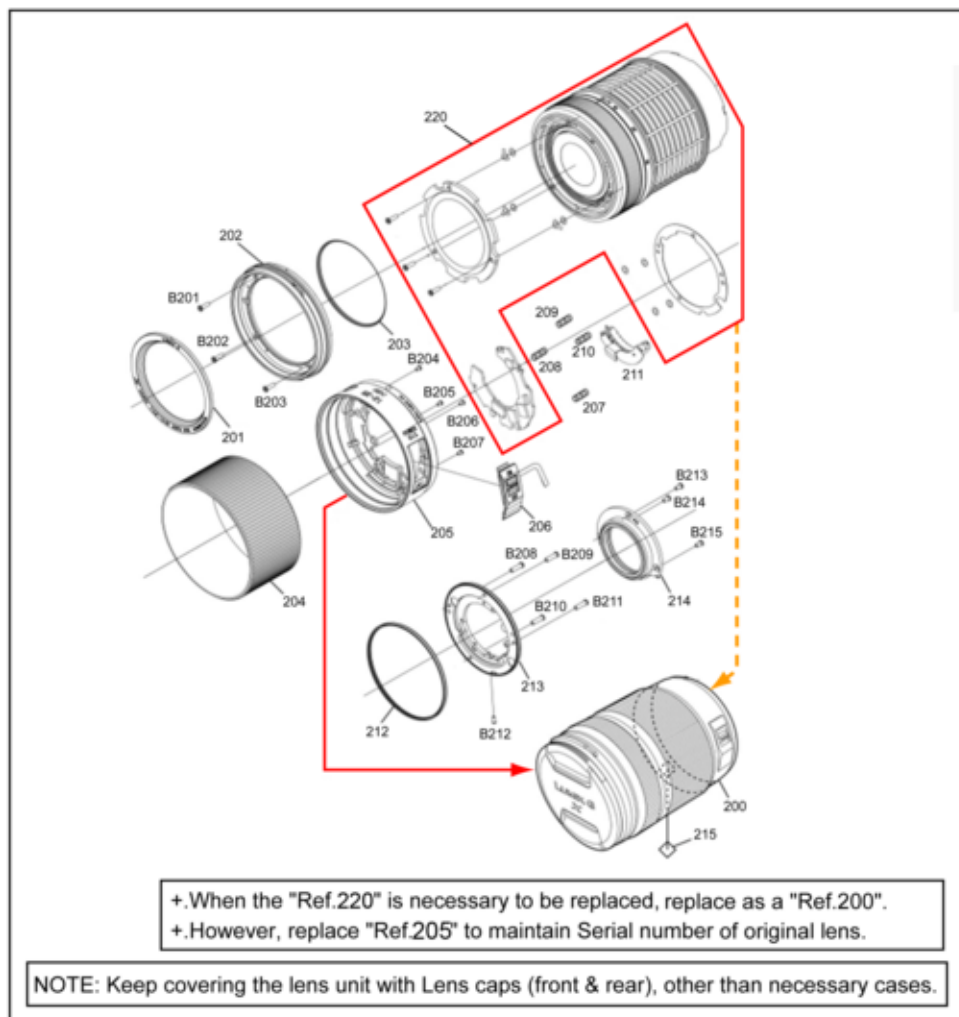

Fig. 1-1
3. No adjustment is required when replacing the part mentioned on Fig.1-1. But, when tighten the concerned screws, apply proper torque mentioned on "6. Disassembly and Assembly Instruction" section.